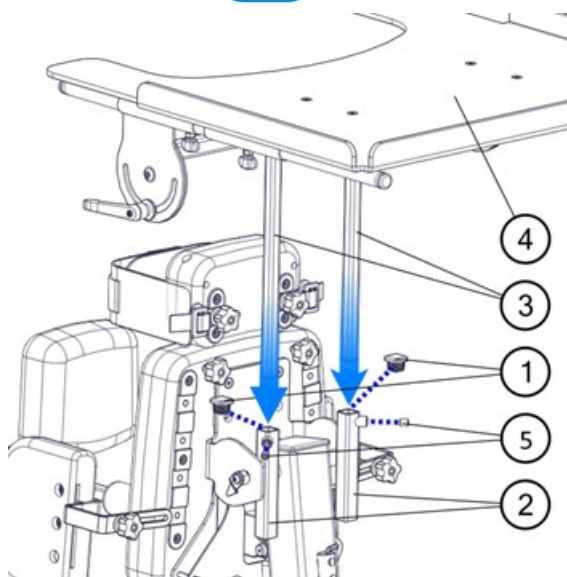

Fig. 18
In order to mount a tray (Fig. 18), it is essential to remove stoppers (1) from the rails (2) of the tray. Then slide in the profiles (3) of the tray into the rails and set the desired height of the tray (4) blocking it with screws (5).